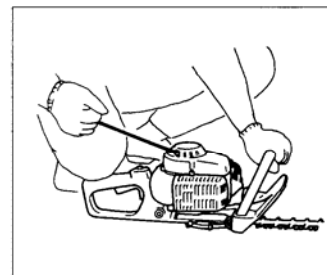

Fig. 2-4
4. Pull recoil starter briskly, taking care to keep the handle in your grasp and not allowing it to snap back. (Fig.2-4,4B)